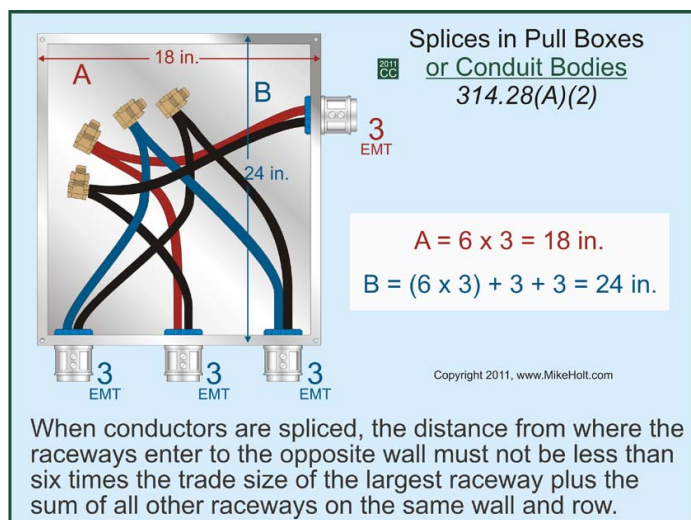

Figure 5-48
- **Splices.** When conductors are spliced, the distance from where the raceways enter to the opposite wall must not be less than six times the trade size of the largest raceway, plus the sum of the trade sizes of the remaining raceways on the same wall and row. **Figure 5-48**